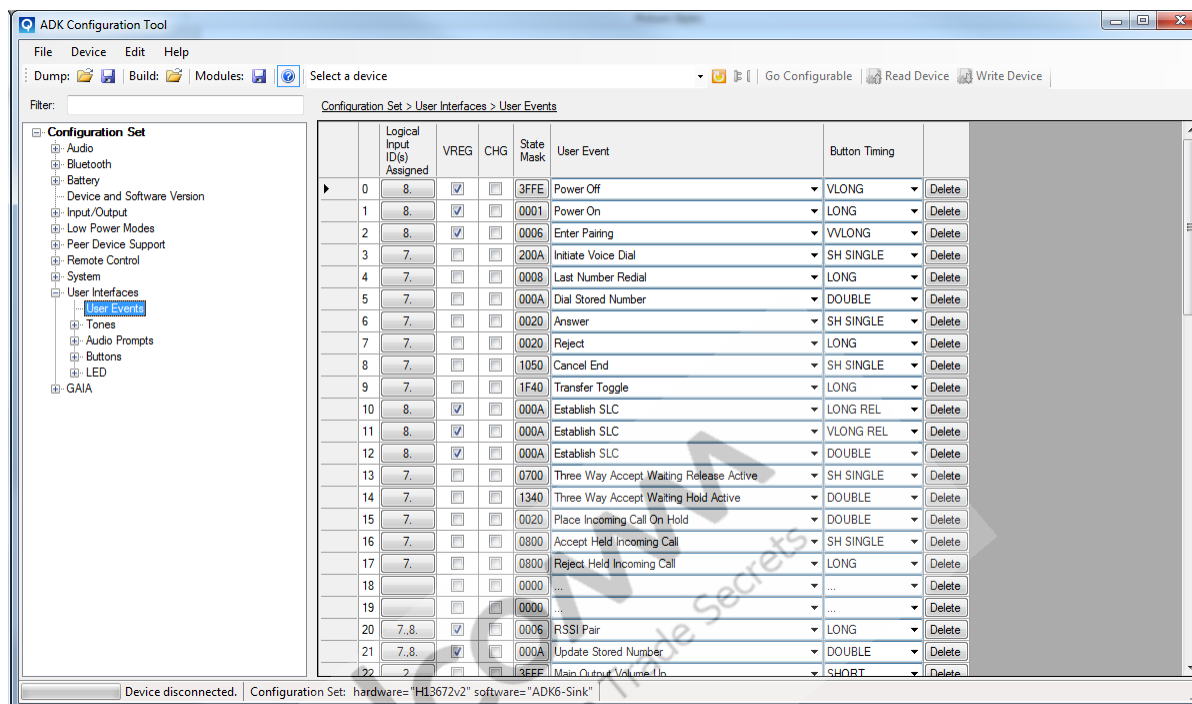

Figure 3-7 The Configuration Tool GUI following disconnection – offline browsing of Configuration Set
- The GUI returns to the offline Configuration Set Browsing mode, see Figure 3-7